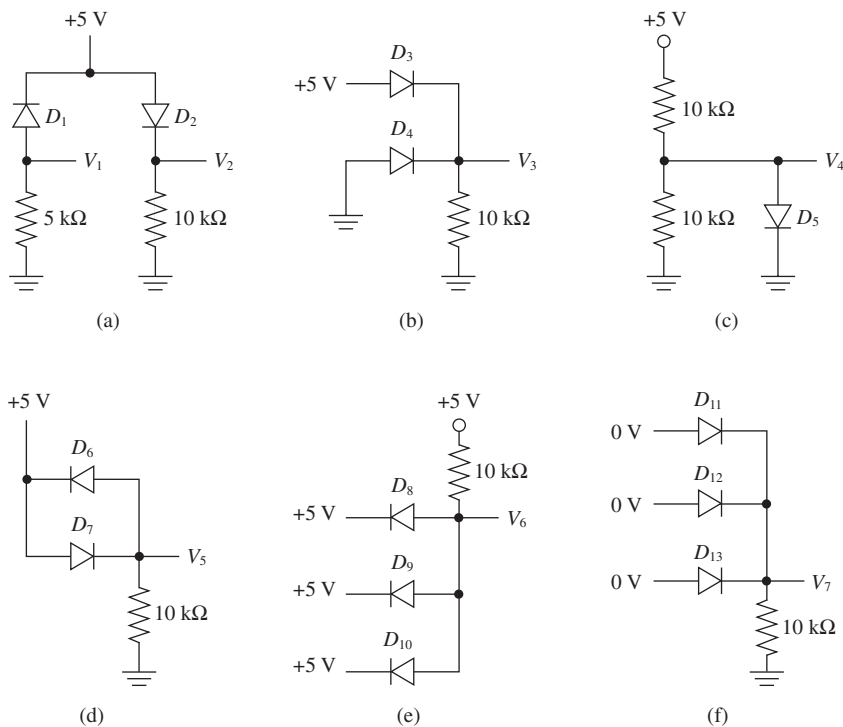

Figure P6
6. Determine if the diodes in Figure P6 are reverse or forward biased.
- C 7. Determine V_1 , V_2 , V_3 , V_4 , V_5 , V_6 , and V_7 in the circuits of Figure P6.
8. In Figure P6, if the cathode of any one of the diodes D_8 , D_9 , or D_{10} is connected to 0 V instead of +5 V, what happens to V_6 ?
9. In Figure P6, if the anode of any of the diodes D_{11} , D_{12} , or D_{13} is connected to +5 V instead of 0 V, what happens to V_7 ?